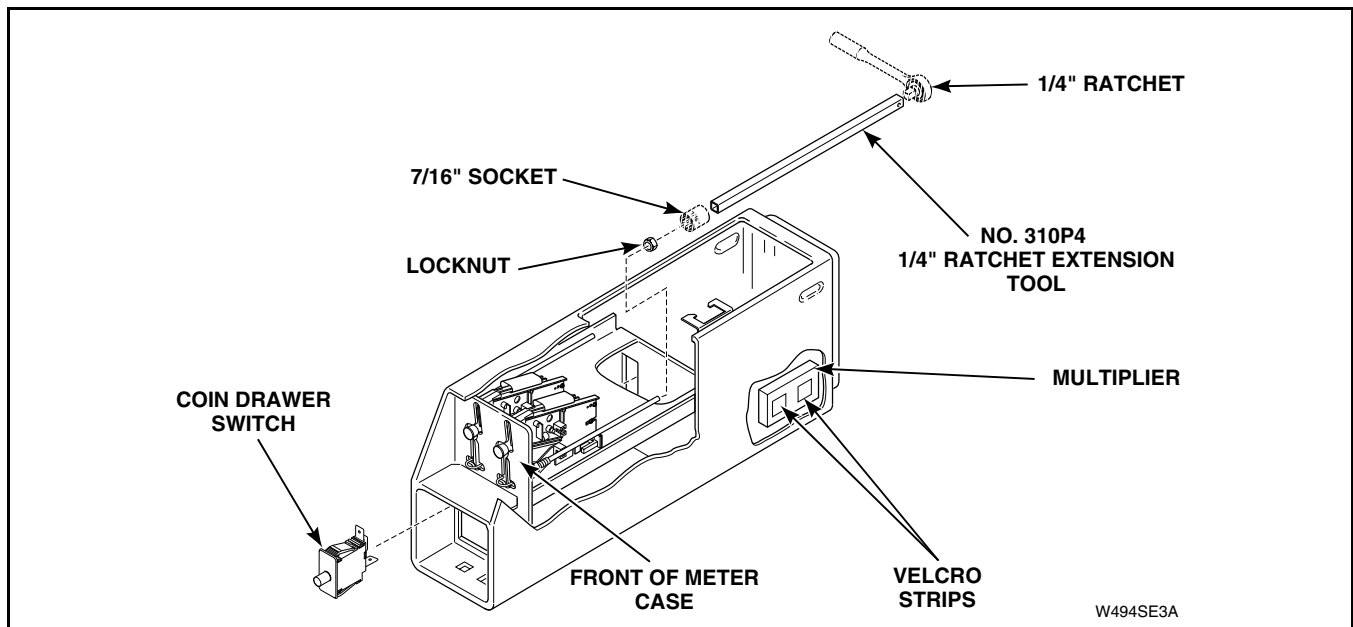

Figure 16
- (4) Remove wire harness from multiplier. Refer to *Figure 16*. Move wire harness out of the way.
- (5) Remove multiplier from inside meter case. Refer to *Figure 16*.
- (6) Press in on locking tabs of coin drawer switch and remove switch through front of meter case. Refer to *Figure 16*.
- (7) Use a 7/16 inch socket with No. 310P4 1/4 inch Ratchet Extension Tool and remove two locknuts holding coin drop to front of meter case. Refer to *Figure 16*.
- (11) Reinstall multiplier and reconnect wires. Refer to *Figure 16*.
- (12) Close and lock service door.